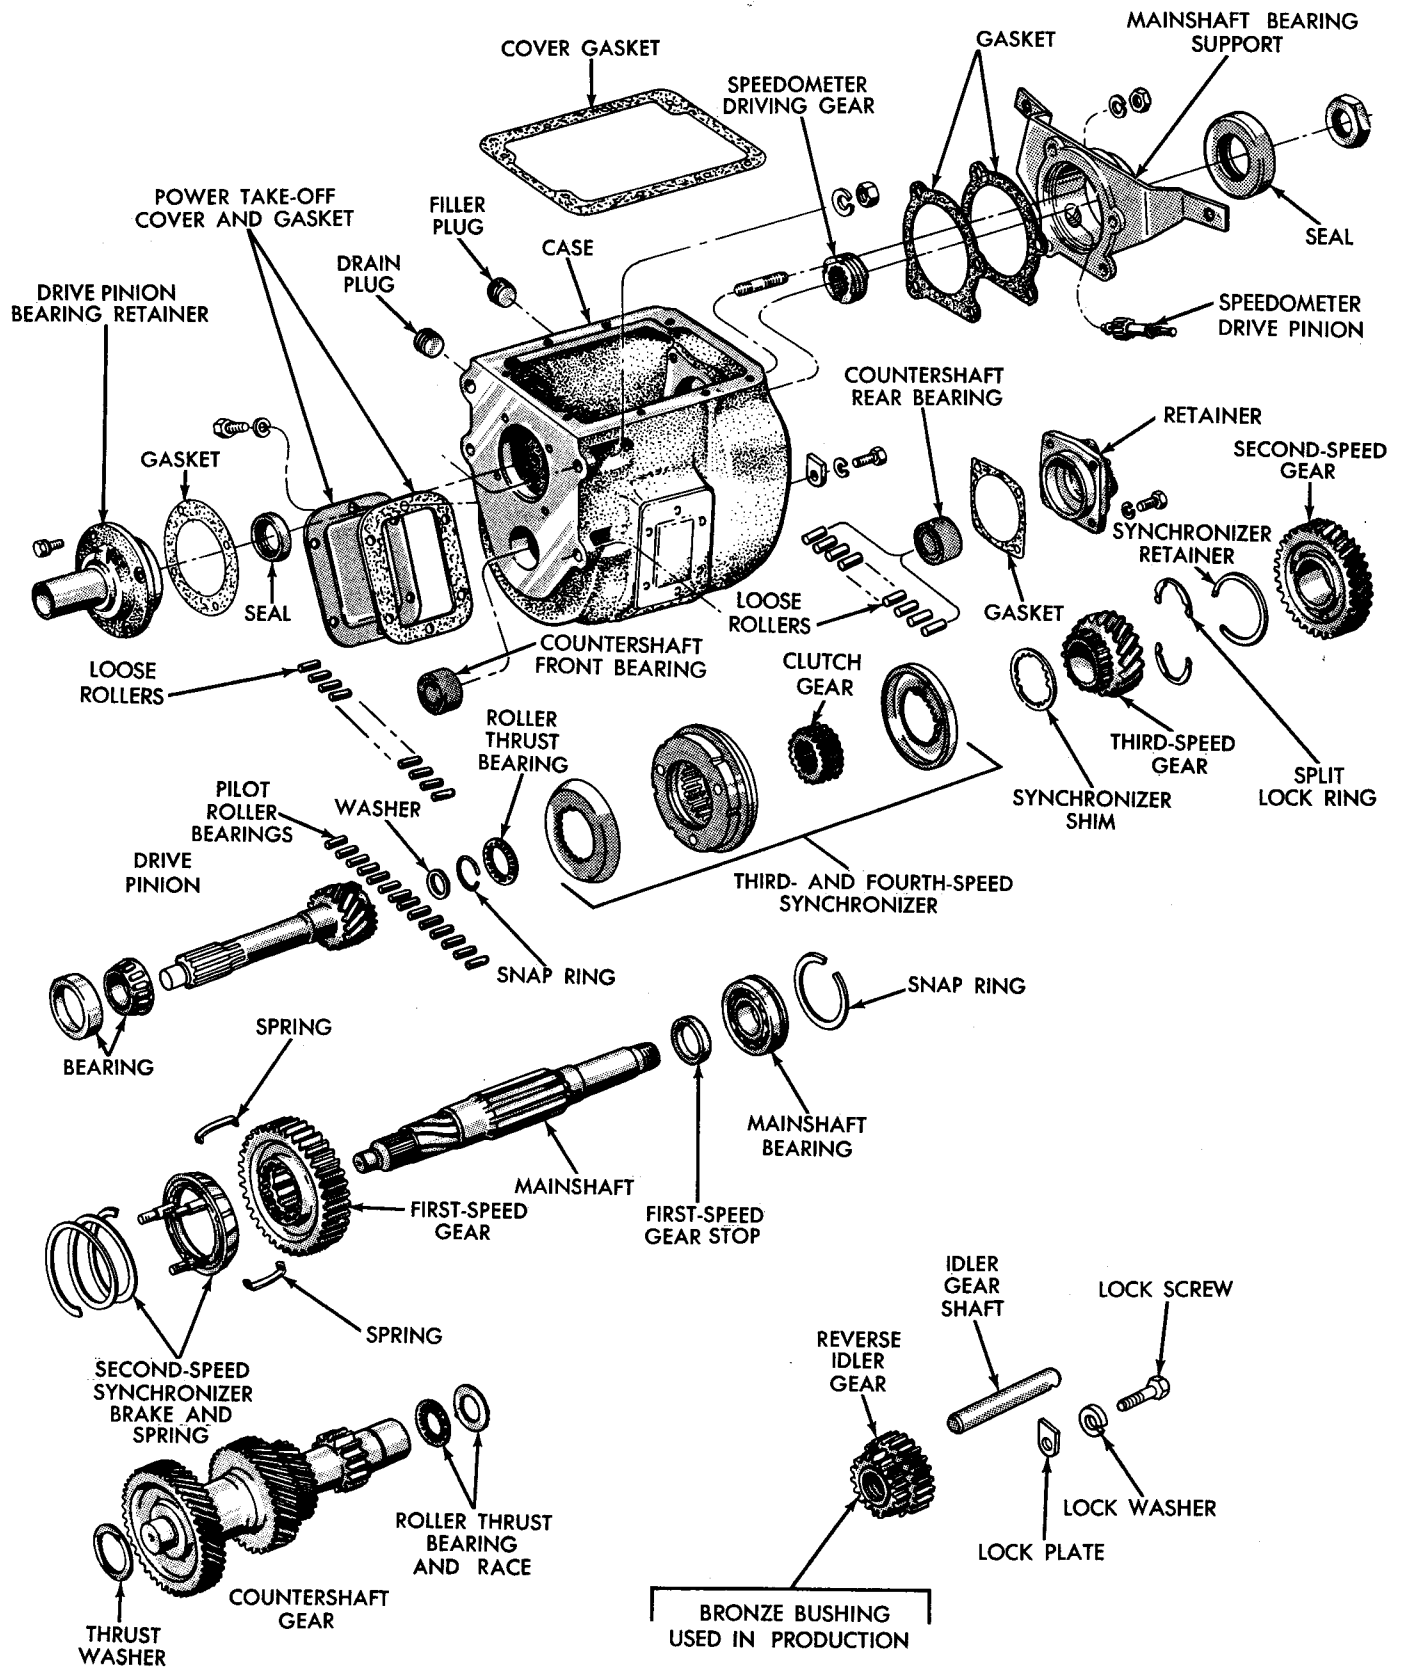

Fig. 2—Transmission (Exploded View) (500, 600, and 700 Models)
(15) Install drive pinion and bearing assembly through the front of the case and position in the front bore. Install outer snap ring in bearing groove. Tap lightly into place using a soft faced hammer. If everything is in proper position, the bearing outer snap ring will bottom onto the case face without excessive effort. If not, check to see if a strut, pinion roller, or stop ring is out of position.
(16) Turn transmission assembly upside down holding the countershaft gear assembly to prevent damaging it.
(17) Lower the countershaft gear assembly into position with the teeth meshed with the drive pinion gear. Make sure thrust washers remain in position on ends of the arbor and tangs are aligned with slots in case.
(18) Start the countershaft into bore at rear of case and push forward until the shaft is approximately half way into the case and gear. Install woodruff key. Push shaft forward until end is flush with rear case face. Remove arbor Tool C-3938.
(19) Rotate extension into proper alignment with the case.
(20) Install extension housing bolts and tighten to 50 foot-pounds.
(21) Rotate transmission assembly to normal position.
(22) Install drive pinion bearing retainer and gasket. Coat threads with sealing compound, then install attaching bolts and tighten to 30 foot-pounds (Fig. 2).
(23) Install new expansion plug in countershaft bore in front of case.